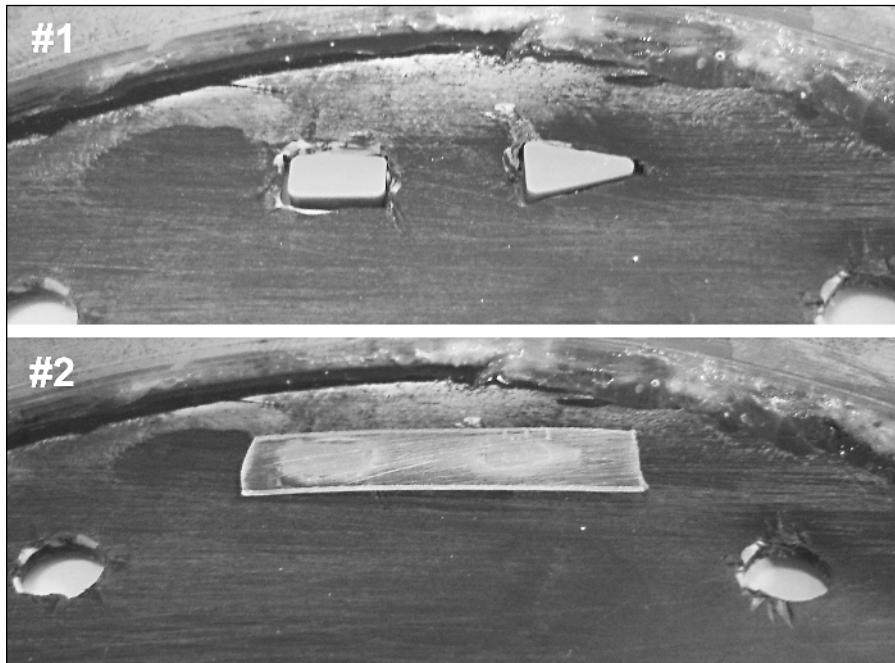

FIGURE 13-7: The select/start buttons sliced and with plastic glued behind them.
2. Place the screen assembly facedown, and set the buttons in their holes, as shown in Figure 13-7. Once they're lined up, place a dot of superglue on the backs.
3. Cut a 1/4" × 1" piece of thin plastic. (A plastic soda bottle works well, but engraving plastic is too thick.) Sand the plastic and place it on the buttons. Press down so that the glue will set. Once they're attached, pull them and the plastic piece out, so that it won't glue to the case as it dries. Figure 13-7 shows both parts of this process.